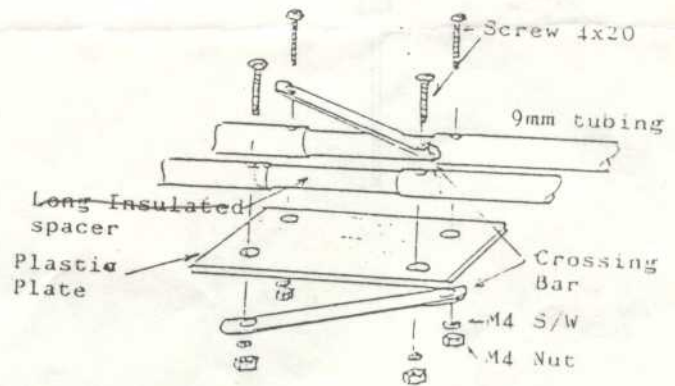

Figure 6 Circuit Board Detail
5.3 Attach the four sections of phase line tubing to the plastic plate with two 7x50mm insulating spacers and two crossing bars. (Refer to Fig.6) Insert 4x20mm screws through the tubing and spacers, pass the end of the screws through the plastic plate and secure with M4 nuts and washers.